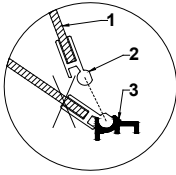

Fig.9 Assembly/ disassembly of the front glass
- !** During cleaning the inside of the device do not leave the front glass freely lifted in the aluminium profile. This may cause the damage of the glass and is not covered by warranty. Please remove the glass with profile for the time of cleaning Fig.9 (p.12)